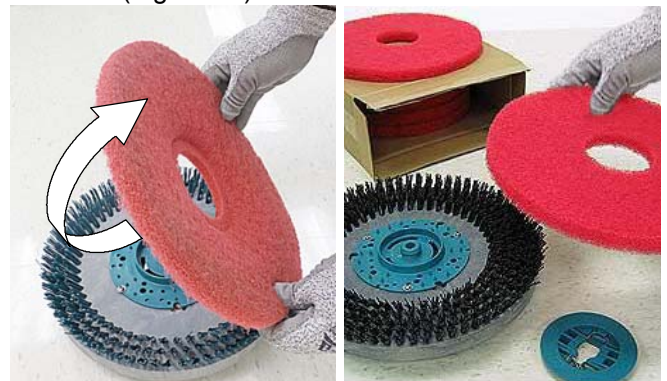

FIG. 99
5. Disk scrub head - Turn pad over or replace when worn (Figure 99).